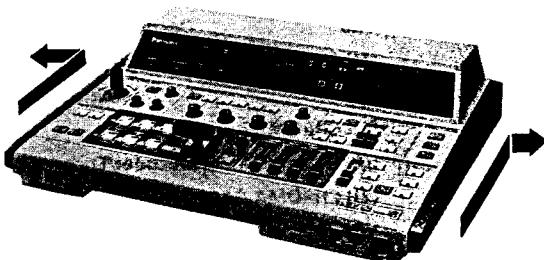

Fig. 2-1
- Remove two side covers holding the bottom and top covers as shown in Fig. 2-1.